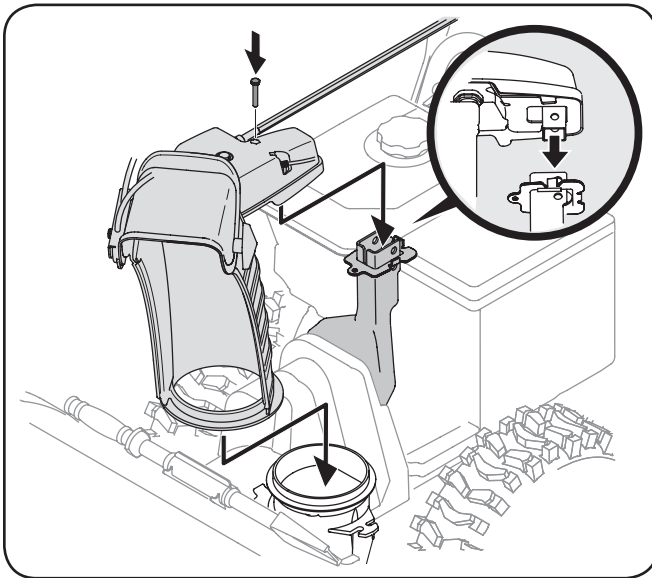

Figure 3-8
- Place chute onto chute base and ensure chute control rod is positioned under the handle panel. Install hex bolt previously removed, but do not secure with wing nut at this time. See Figure 3-8.